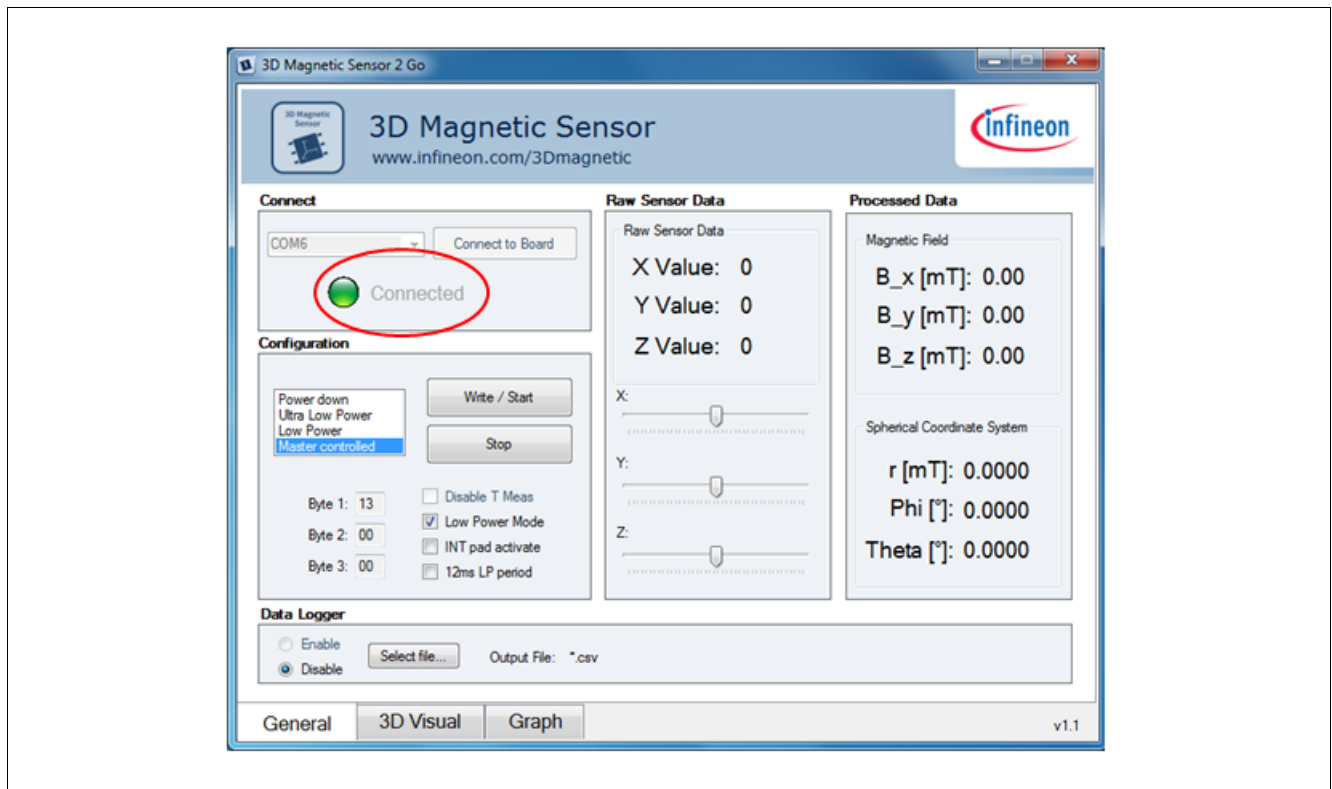

Figure 6 Demo-Software - Connect
3. Click "Connect" (see Figure 6).